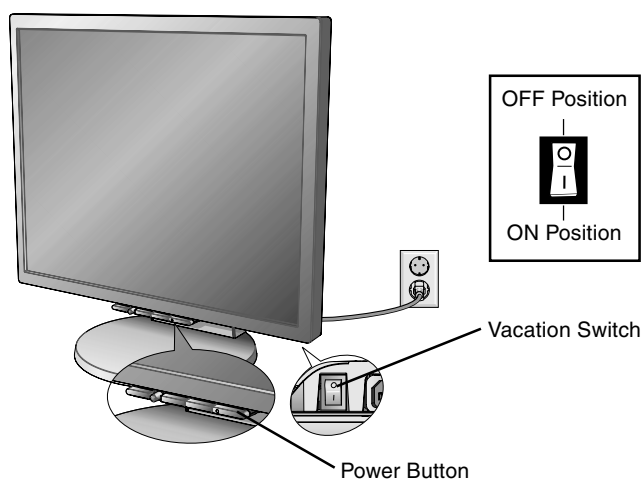

Figure E.1
10. Connect the power cord to the power outlet (**Figure E.1**).
11. The vacation switch on the back side of the monitor must be turned on (**Figure E.1**). Turn on the monitor with the front power button and the computer.